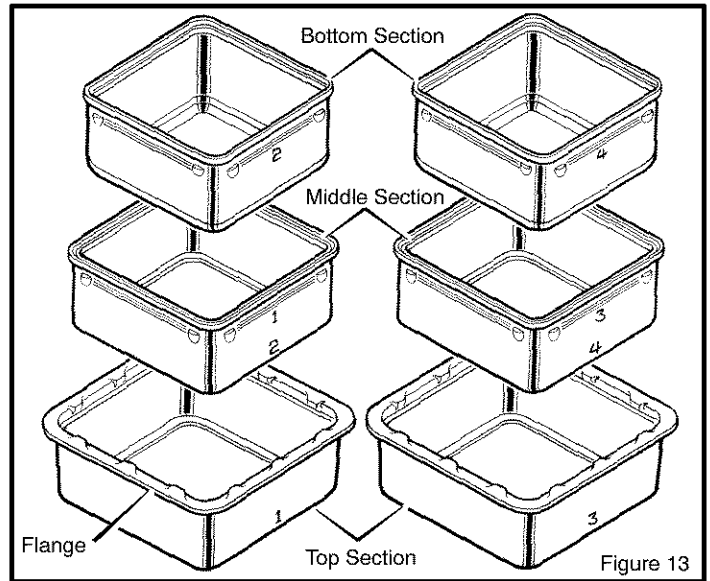

Figure 13
1. Separate the six container sections into two groups. Each group will have a **top section**, a **middle section**, and a **bottom section** (Figure 13).